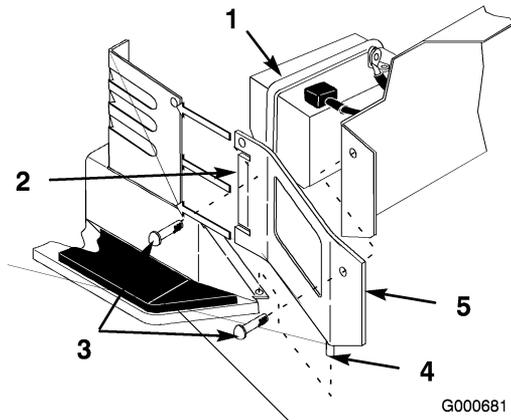

Figure 43
- Remove the right side panel for clearance when removing battery Figure 43).
- Install the battery into the tractor (Figure 43).
- Install the right side panel by sliding tabs into steering tower and inserting pin into flange of footrest. Secure with screws (Figure 43).